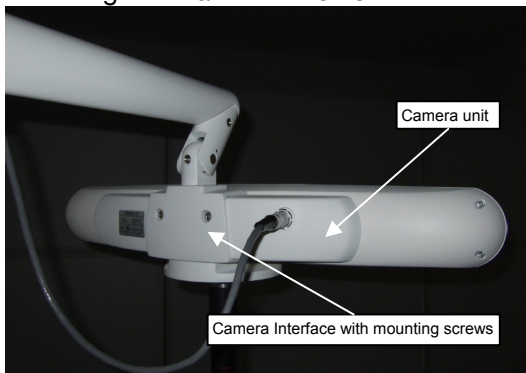

Figure 1
- Apply a moderate force in horizontal and vertical direction to the camera unit: there shall be no movement between the camera unit and the Camera Interface (refer to Figure 1).